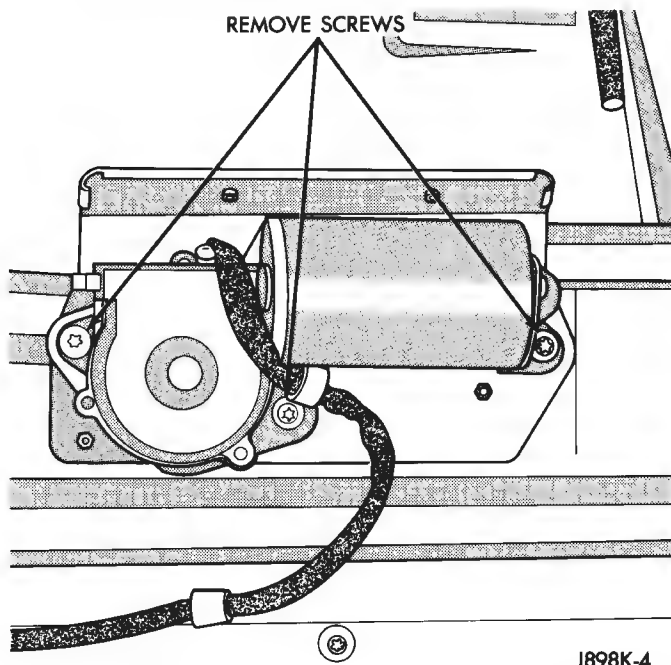

Fig. 7 Windshield Wiper Motor Mounts
(2) Remove the nuts attaching the pivots to the windshield frame.
(3) Remove the necessary hard or soft top components from the windshield frame.
(4) Remove the windshield holddown bolts in the lower corners of the instrument panel and fold the windshield forward.
(5) Remove wiper motor mounting screws (Fig. 7).